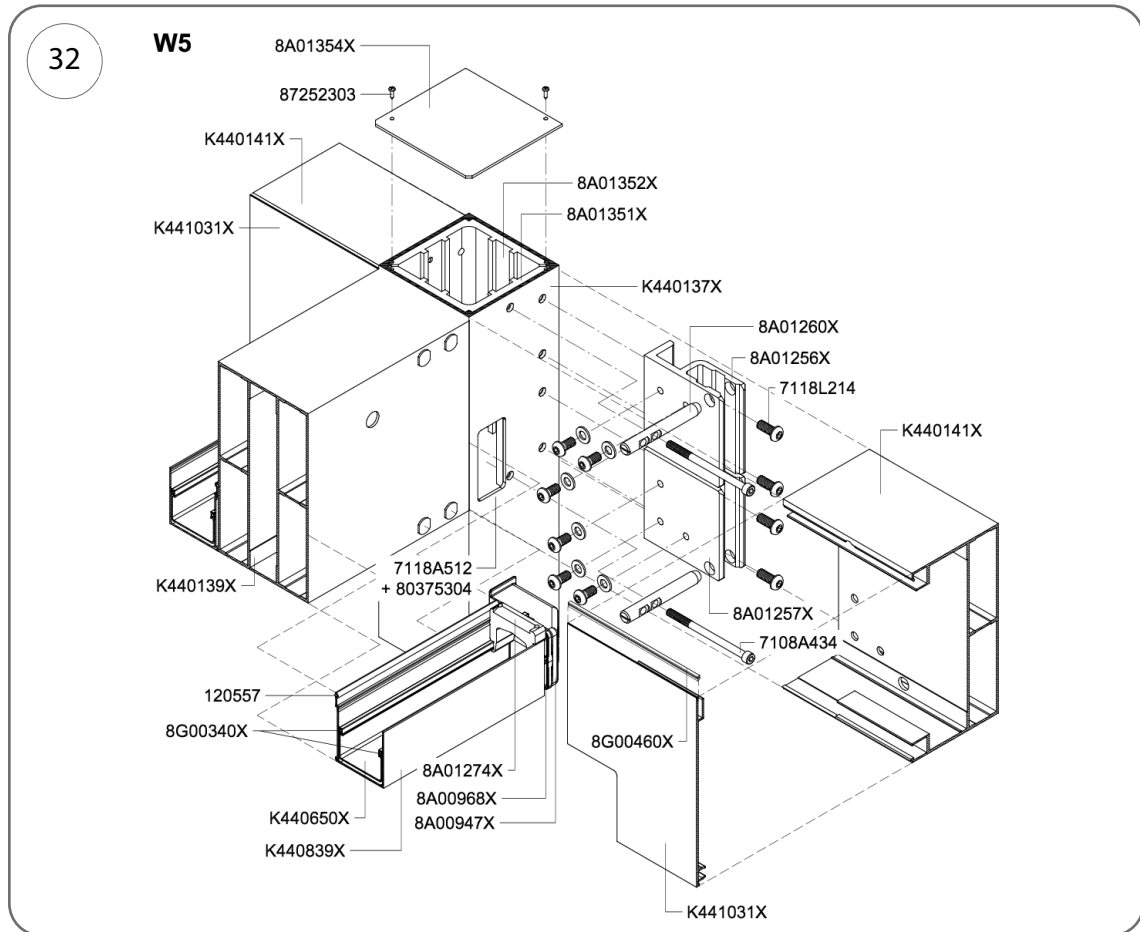

Fig. 32
3. Pass the screws (cat. no. 7108A434) (M8 x 120 mm) through the holes in the pins 8A01260X and screw them into the side of the intermediate column connectors 8A01351X and 8A01352X in the case of node W5 with an intermediate rafter (Fig. 32), or pass bolts (cat. no. 7108A434, M8 x 120 mm) through the holes in the pins 8A01260X and screw them into the side of the intermediate column connector 8A0101258X in the case of node W6 with an intermediate purlin (Fig. 33).